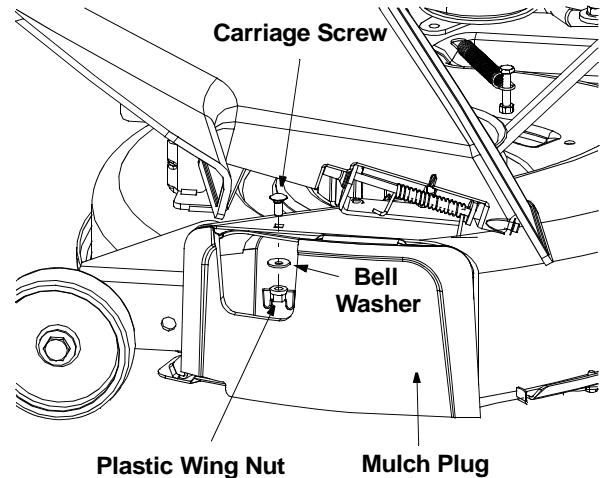

Figure 6
- To operate the cutting deck without mulching, simply remove the mulch plug by unthreading the plastic wing nut which fastens it to the cutting deck. This will allow the clippings to discharge through the side-discharge opening. See Figure 6 .